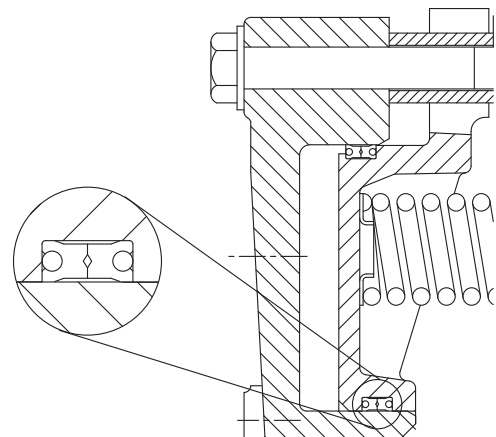

Figure 16
- 4.6.4 Insert new seals into the grooves, noting the orientation of the seals per Figure 16.
- 4.9.23 Lubricate the seals (21)(23) with Dow Corning 55M O-ring lubricant, and install them into the seal grooves on the spring housing (16). Note the orientation of the seal lips, per Figure 16.